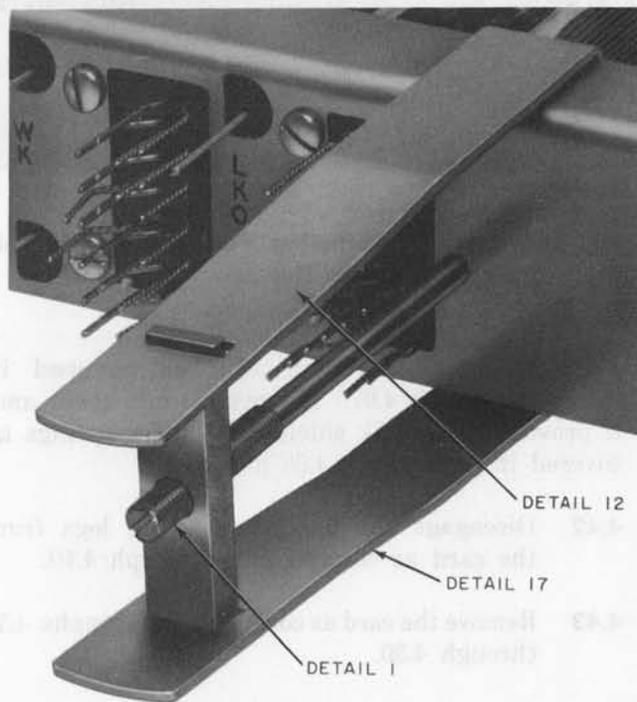

Fig. 18—Detail 12 Wedge Support, Detail 17 Wedge Support, and Detail 1 Wedge Support Assembly
- (a) Place the detail 12 wedge support on the top flange of the mounting plate as shown in Fig. 18 and the detail 17 wedge support on the lower flange (Fig. 18) close to the left corners of the relay. Assemble the detail 1 wedge support assembly to details 12 and 17, and tighten the screw against the mounting plate as shown.